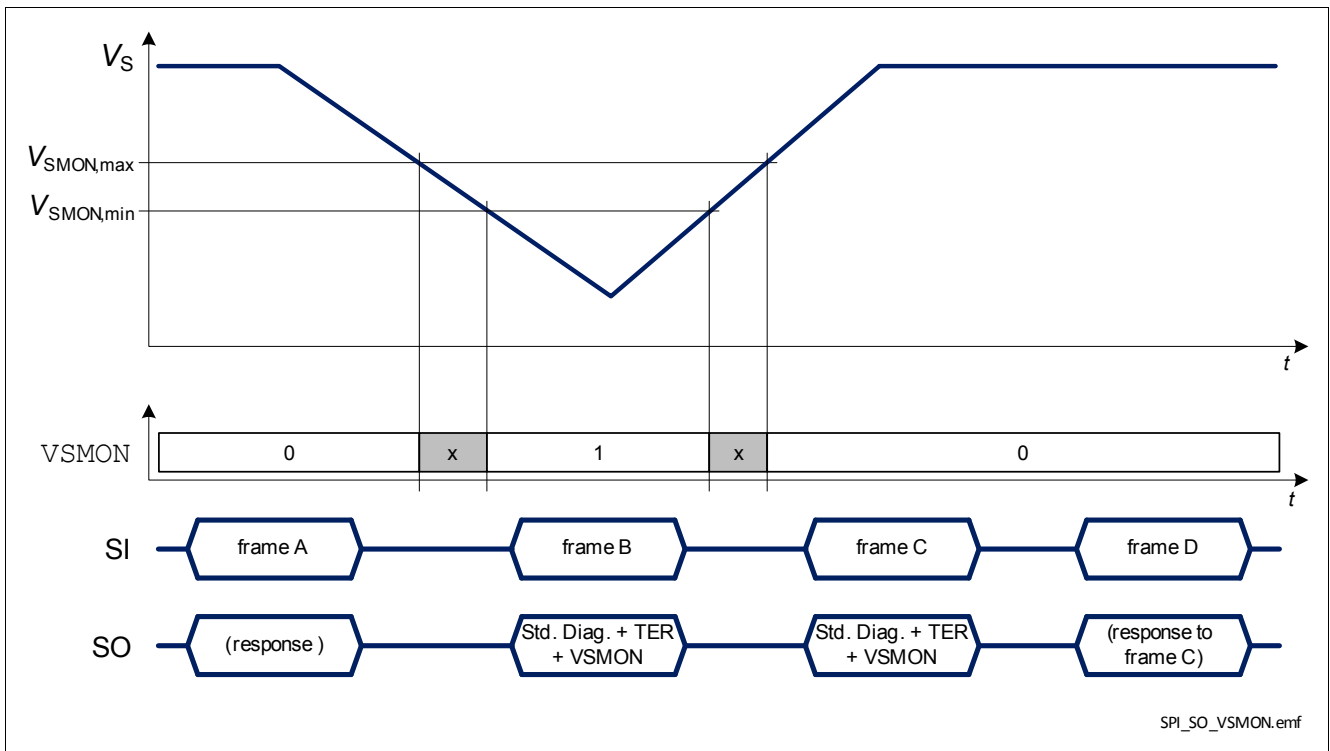

Figure 34 BTS54220-LBE response in case of a negative battery voltage transient
- when $V_S < V_{SMON}$ and $\text{DCR.MUX} \neq 111_B$, as shown in Figure 34